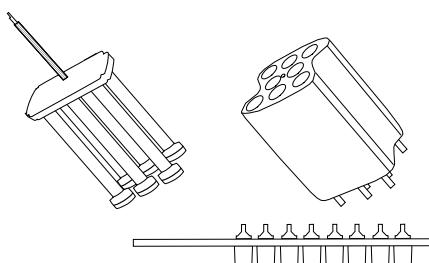

Figure F.1.2: Components to be Autoclaved
4. Place all components (see *Figure F.1.2*) into the autoclave and autoclave at 121 °C for 20 minutes.